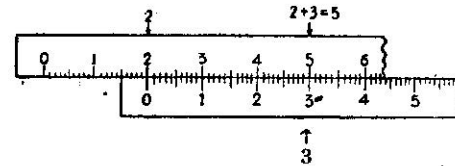

Fig. 1
In order to find significant figure such as 135 (1.35, 13.5, 0.135) by divided parts of graduation, read the first significant figure 1 between prime 1 and 2 as shown by heavy line in (1) of Fig. 4; read the second significant figure 3 between secondary 3 and 4 as shown by heavy line in (2) of Fig. 4; finally read the third significant figure 5 by tertiary line as shown by arrow in (3) of Fig. 4. In line with above mentioned reading procedure of graduation, range of space is gradually reduced until the last significant figure being decided.